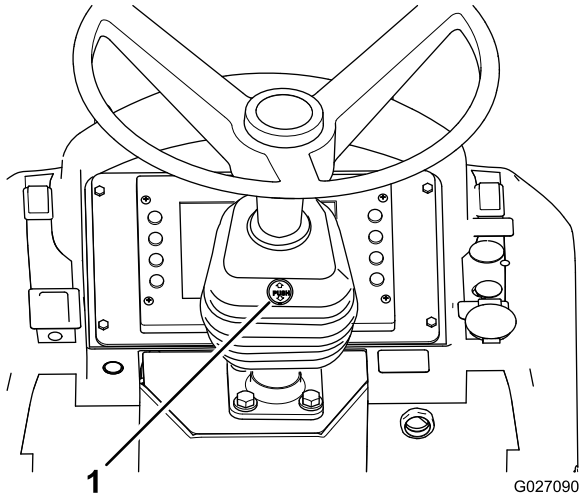

Figure 11
3. Press the latch mechanism (located under the word PUSH that is embossed in the boot of the steering column) until the column unlocks (Figure 11).
5. Release the latch mechanism and ensure that the steering column is locked in position (Figure 11).